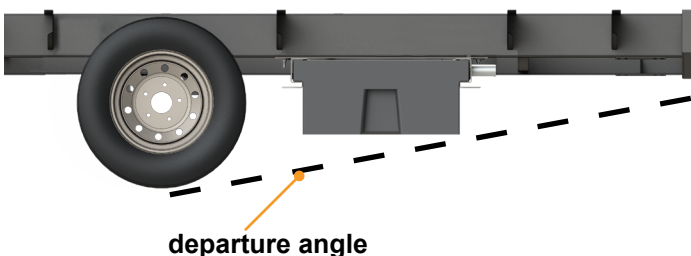

Fig.1
1. Determine location for under chassis storage bin. The carrier can be located behind the rear jacks of the trailer but must remain within the departure angle of the trailer (Fig.1).